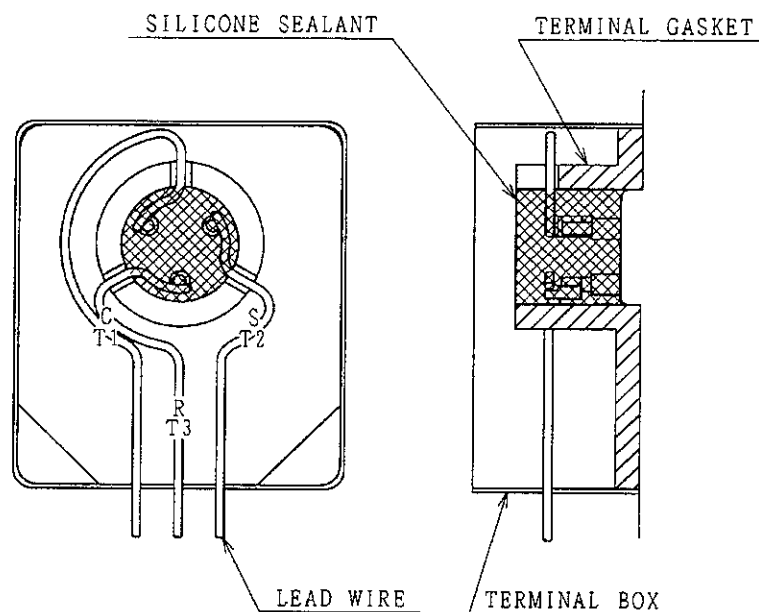

Fig. 1
- 18) Fill the recommended silicone sealant (RTV 162, GE Silicones) into the cylindrical part of the Gasket up to the top end. See Fig. 1.